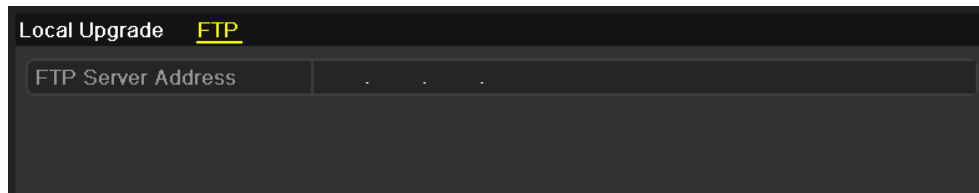

Figure 13-8 FTP Upgrade Interface
Step 2 Click the **FTP** tab to enter the local upgrade interface, as shown in Figure 13-8.